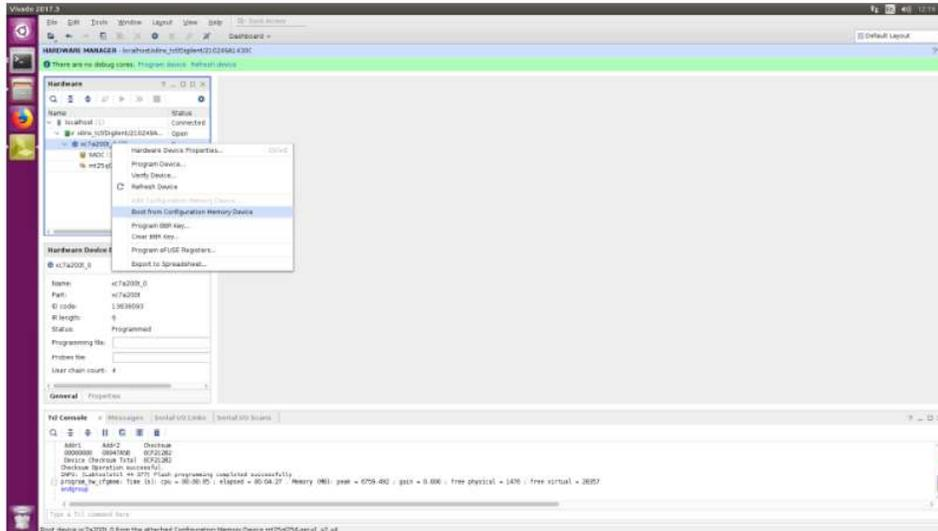

Figure 61: Boot from Configuration Memory Device [sc29]
16. With the programming completed, the FPGA is not yet loaded with the bitstream from the memory configuration device. To load the software on the FPGA processor, right-click the artix file “xc7a200t” in the “Hardware” pane on the upper left-hand side of the screen. A pop-up appears; left-click “Boot from Configuration Memory Device” (see Figure 61, STMA-69230) or switch the power supply OFF and, after waiting at least 2 seconds, ON again;